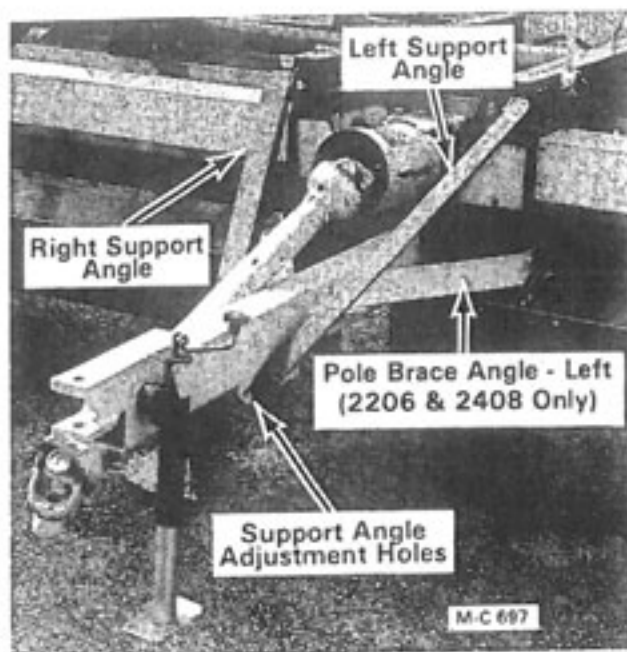

Figure 12
Shredder can be leveled by moving the pole support angles forward or back in the pole mounting holes, see Figure 12. Seven (7) holes are provided for adjustment.